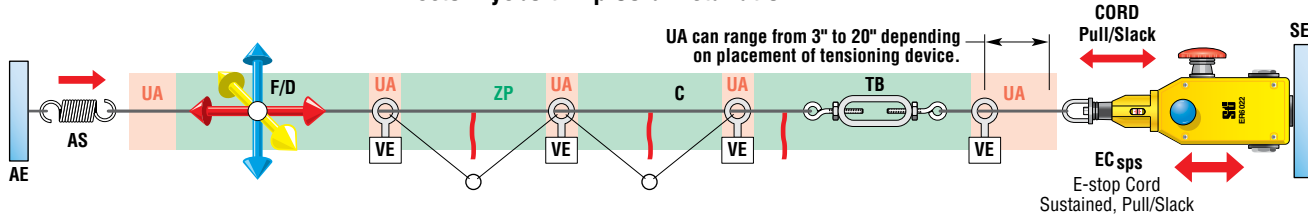

Fig. 9.2
When analyzing the installation for a pull cord, the linear length of cable providing protection must be taken into consideration. As shown in *Figure 9.2* the zone of protection from the anchor end (AE) to the switch end (SE) is not necessarily contiguous; areas of unknown action (UA) may be present. The first of these UA areas is at the point of attachment of the cord to the switch. The switch may or may not operate if the point of force is located less than 1 to 3 feet from the switch. The UA can be reduced to 3 inches if the tensioning device is installed on the opposite side of the vector eyebolt (VE) to the switch. If using a tensioner gripper assembly connected directly to the switch, the UA may be reduced to less than 20 inches.